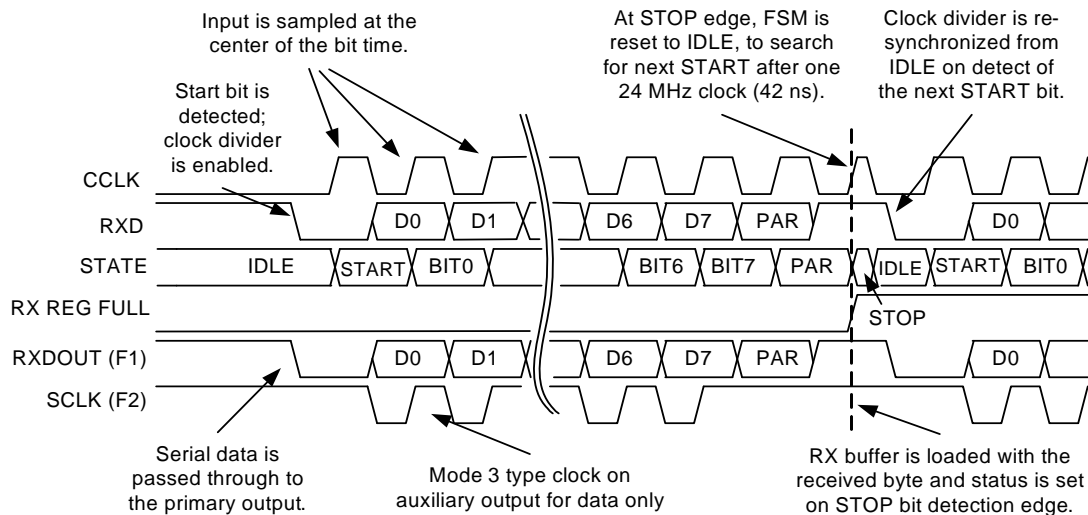

Figure 17-27. Receiver Operation
**Receive Operation.** A clock, which must be eight times the desired baud rate, is selected as the CLK input. This clock is an input to the RX block clock divider. When the receiver is idle, the clock divider is held in reset. As shown in Figure 17-27, reception is initiated when a START bit (logic 0) is detected on the RXD input. When this occurs, the reset is negated to the clock divider and the 3-bit counter starts an
To facilitate connection to other digital blocks, the RXD input is passed directly to the RXDOUT (primary) output. The SCLK (auxiliary) output has an SPI mode 3 clock associated with the data bits (for mode 3 timing see Figure 17-27). During the mark (idle) and framing bits, the SCLK output is high.